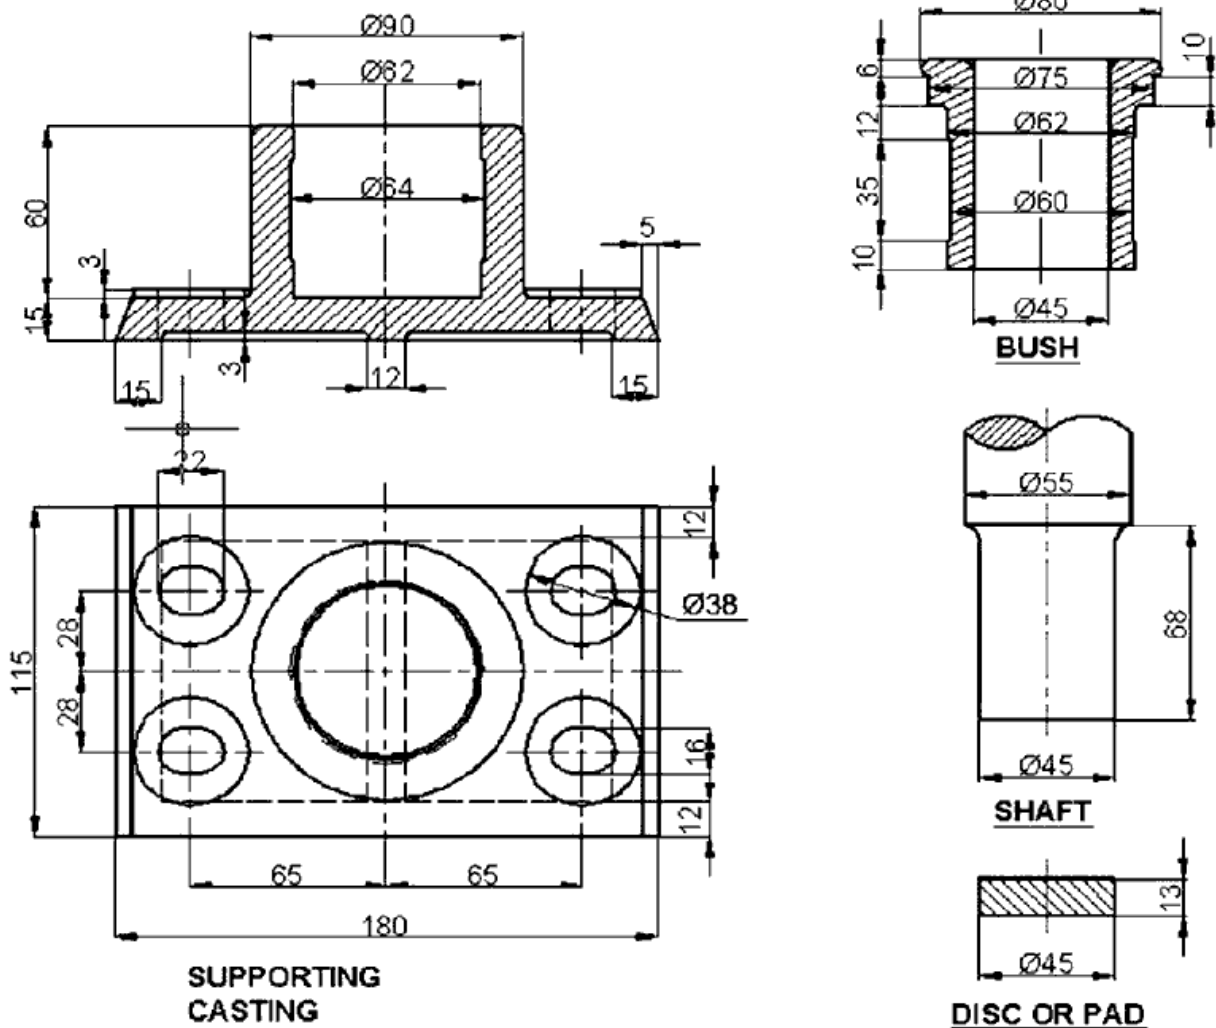

Fig.2 Parts of Footstep Bearing.
6) The parts of a Footstep bearing are given in Fig2. Assemble all the parts and draw the following views of the assembly to full scale.